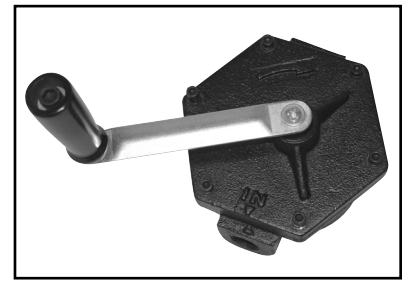

Fig. 1
1. Install the handle, large flat washer, Phillips pan head screw and tighten. (See Fig. 1)